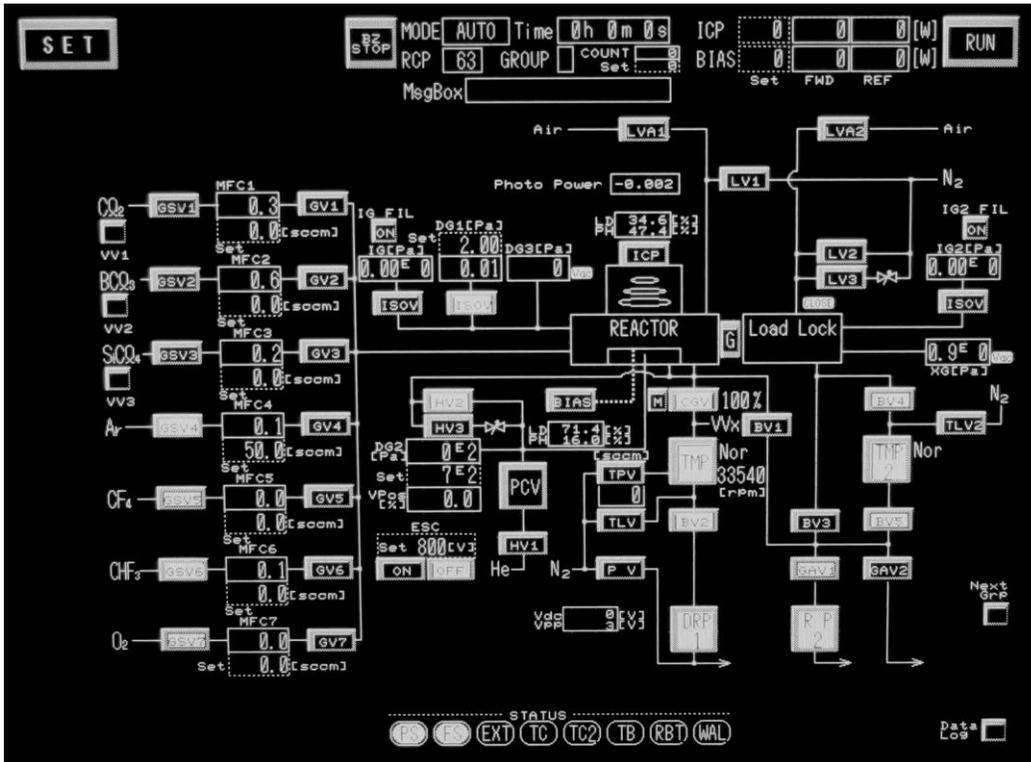

Figure 4. The main screen. The status indicators at the bottom, PS and FS, should be the only ones lit.
- The Main screen, showing the status of the sub-systems (Fig. 4) at the bottom. In the normal state, the status indicators at the bottom of the screen, PS and FS, should be highlighted.
- b) Press the MAIN screen button, which displays a schematic of the system (Fig. 4) and then